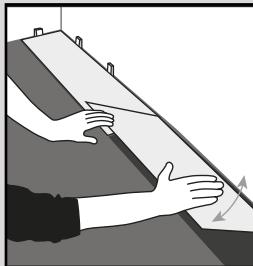

Fig. 2
2. Lay the first row, ensuring the short edges are clicked together (Fig. 2).